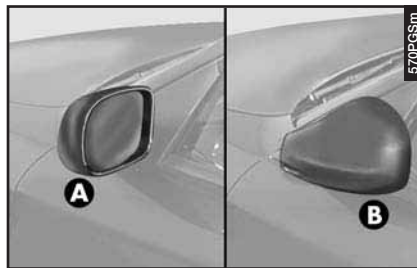

fig. 42
– If necessary (for example when the size of the mirror causes difficulty in narrow places) the door mirror can be folded in towards the vehicle from position **(A-fig. 42)** to position **(B)**.